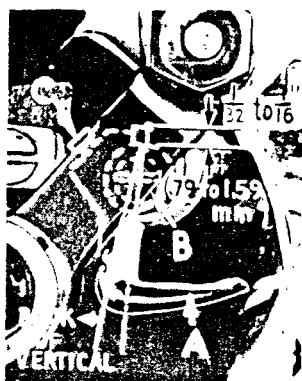

Fig. 9
Insert upper looper (A, Fig. 9) or upper spreader in its holder. Screw (B) holds the upper looper or spreader in its holder, and permits the upper looper or spreader to be pushed in or out, or turned around its shank. Insert upper looper or spreader holder into shaft, if not already in place. Screw (C) in clamp collar holds upper looper or spreader holder in the shaft, and allows holder to be rotated or adjusted laterally.
When the upper looper or spreader is at the right end of its stroke, the upper looper or spreader holder should be set to position the upper looper or spreader shank slightly back of vertical (Fig. 9). Top end of the upper looper or spreader shank should extend $1/32$ to $1/16$ inch (.79 to 1.59 mm) above the upper looper or spreader holder (Fig. 9) on 695B012, 040, and 051. This dimension should be $1/16$ to $3/32$ inch (1.59 to 2.38 mm) on 695B030.